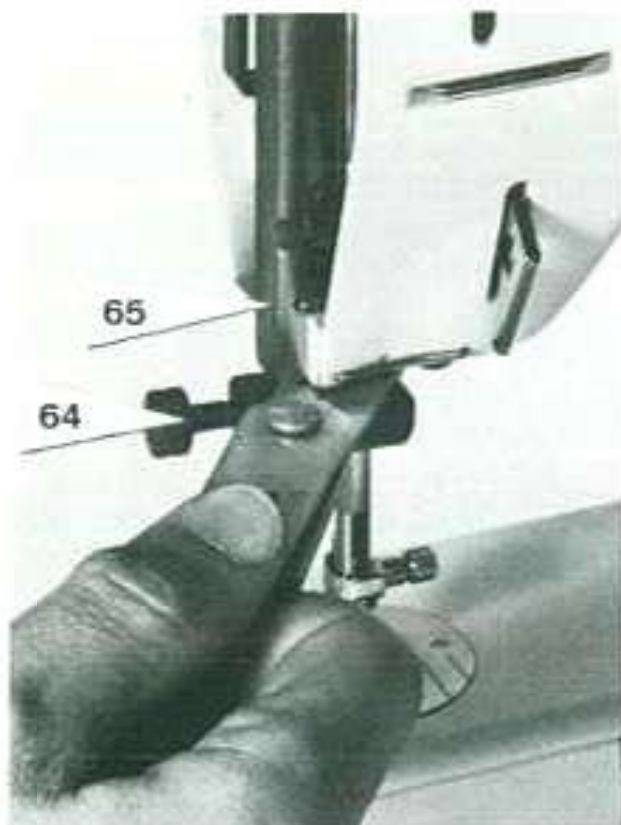

Fig. 25
Insert loop lift gauge (2.2 mm) beneath the swivel support and raise needle bar by turning handwheel until clamping piece (64) contacts the swivel support (65) (Fig. 25).